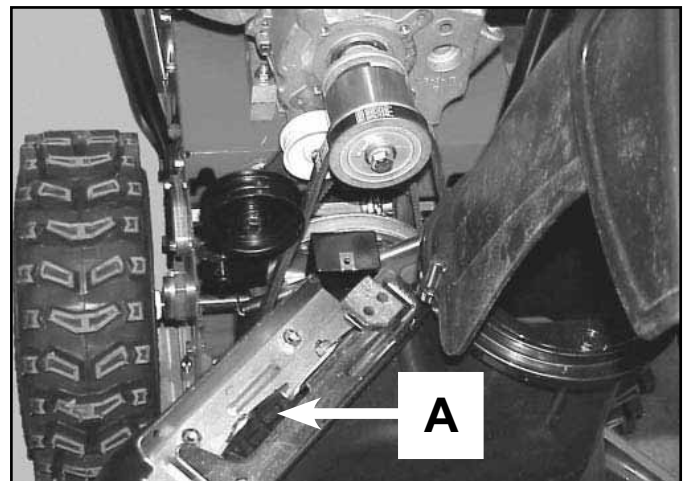

Fig 061
4. The brake assembly can be lifted out of the chassis (Fig. 061).